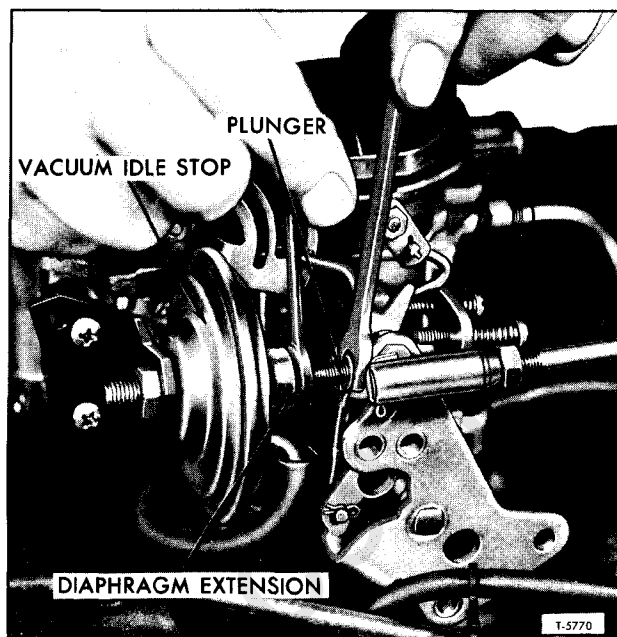

Figure 5—Adjusting Vacuum Idle Stop
a. Referring to figure 5, place a ¼-inch open end wrench on diaphragm extension of vacuum idle stop to prevent its rotation while adjusting plunger.
- a. Referring to figure 5, place a 1/4-inch open end wrench on diaphragm extension of vacuum idle stop to prevent its rotation while adjusting plunger.